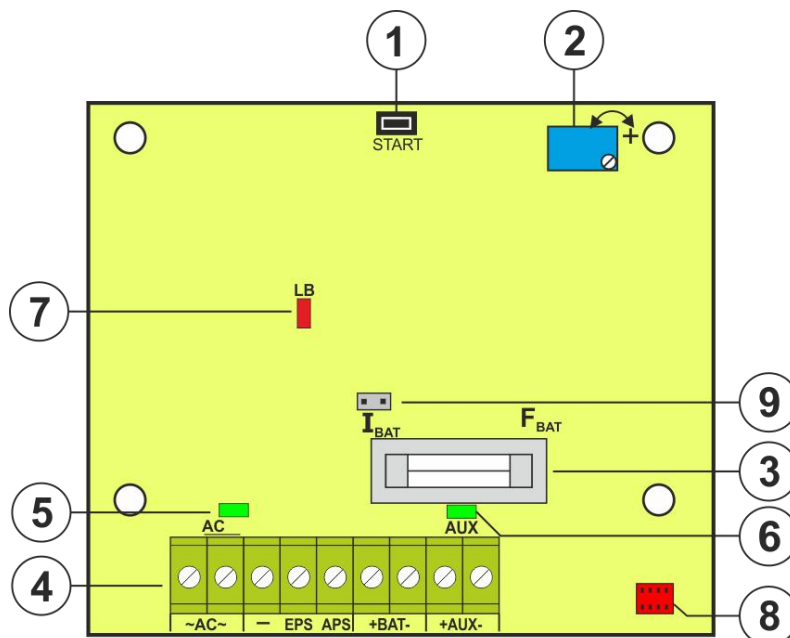
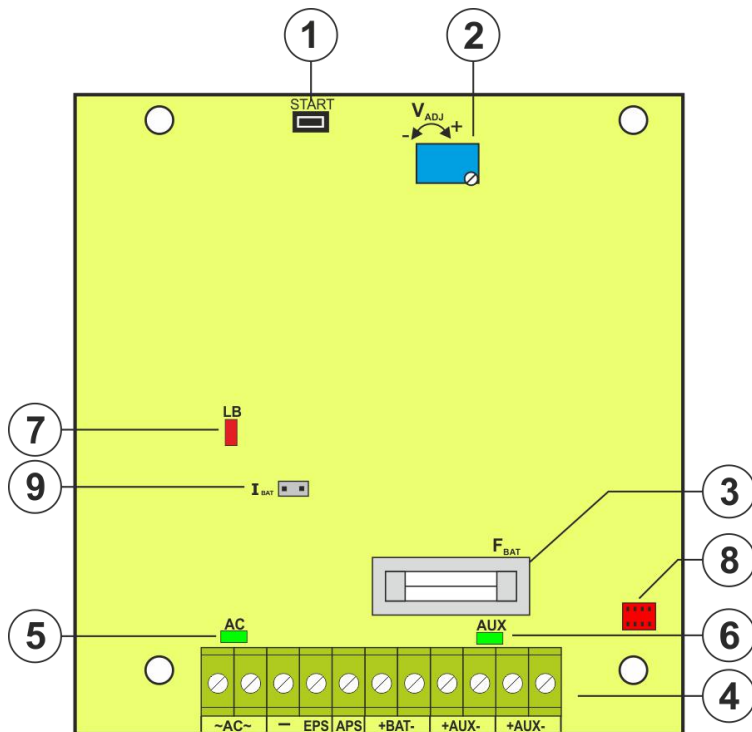
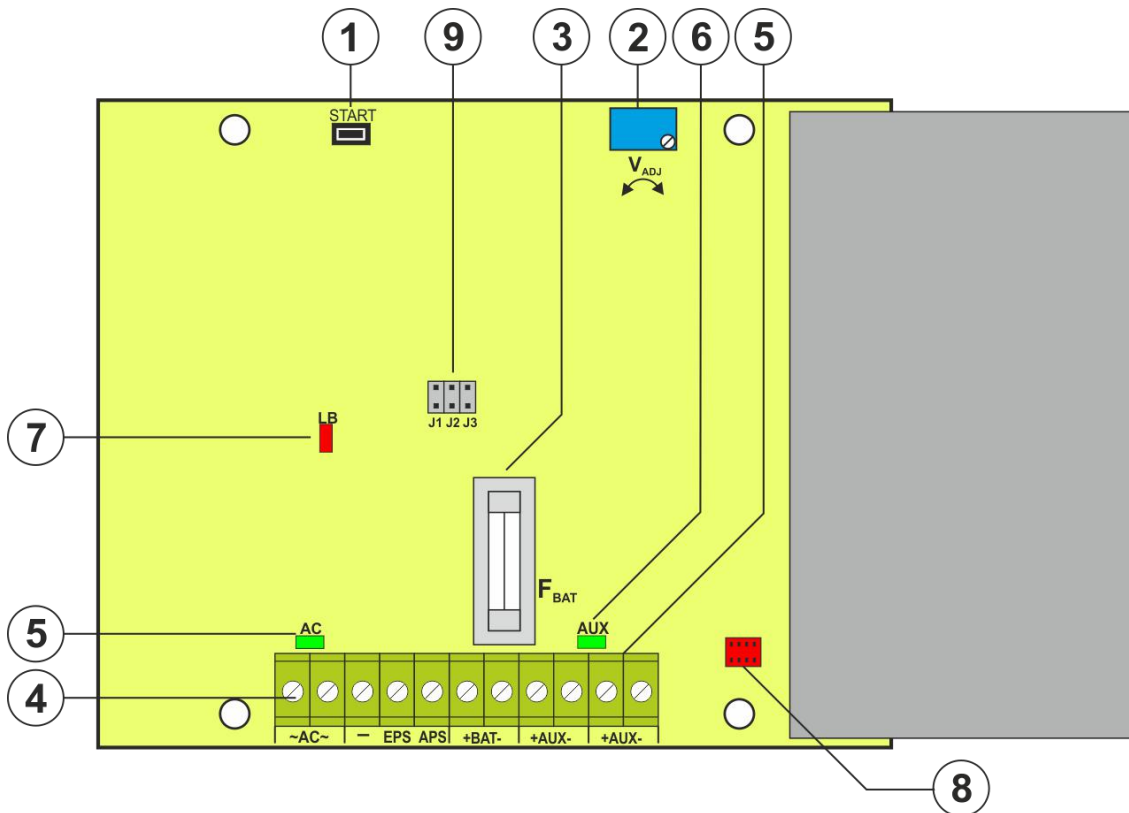

Fig. 2a. View of PCB board of 12V2A model
Fig. 2b. View of PCB board of 12V3A / 24V2A model
Fig. 2c. View of PCB board of 12V5A / 24V3A model
①	START button (launching from battery)
②	$V_{ADJ}$ potentiometer, adjustable output voltage
③	$F_{BAT}$ fuse in the battery circuit
④	Terminals: ~AC~ – AC power input EPS – technical output of AC power loss indication hi-Z state = AC power failure 0V state = AC power - O.K. APS – technical output of battery failure hi-Z state = failure 0V state = PSU status O.K. +BAT- – terminals for battery connection +AUX- – DC power supply output, (+AUX= +U, -AUX=GND) Description: hi-Z – high impedance, 0V – connection to the ground GND
⑤	LEDs – AC – indication of presence of main power
⑥	LEDs – AUX – power supply output voltage indication
⑦	LEDs – LB – battery charging indication
⑧	Connector to the external LED indicators
⑨	Jumper <math>I_{BAT}</math>: – battery charging current configuration  Power supply unit 12V2A (see Fig 2a) <ul style="list-style-type: none"> <li>• <math>I_{BAT}</math> = , <math>I_{BAT} = 0,2</math> A</li> <li>• <math>I_{BAT}</math> = , <math>I_{BAT} = 0,5</math> A</li> </ul> Power supply unit 12V3A / 24V2A (see Fig 2b) <ul style="list-style-type: none"> <li>• <math>I_{BAT}</math> = , <math>I_{BAT} = 0,5</math>, A</li> <li>• <math>I_{BAT}</math> = , <math>I_{BAT} = 1,0</math> A</li> </ul> Power supply unit 12V5A (see Fig 2c) <ul style="list-style-type: none"> <li>• J1=  J2=  J3=  <math>I_{BAT} = 0,5A</math></li> <li>• J1=  J2=  J3=  <math>I_{BAT} = 1A</math></li> <li>• J1=  J2=  J3=  <math>I_{BAT} = 2A</math></li> </ul> Power supply unit 24V3A (see Fig 2c) <ul style="list-style-type: none"> <li>• <math>I_{BAT}</math> = , <math>I_{BAT} = 0,5</math>, A</li> <li>• <math>I_{BAT}</math> = , <math>I_{BAT} = 1,0</math> A</li> </ul> Description:  jumper installed,  jumper removed